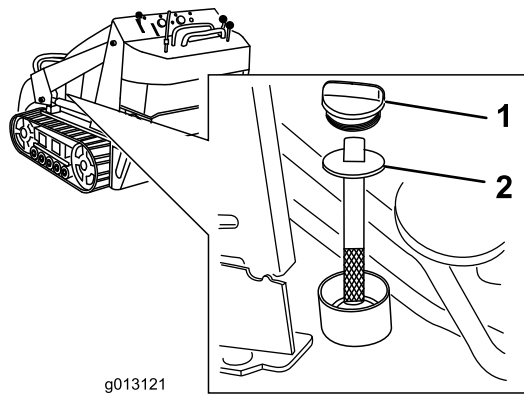

Figure 17
5. Clean the area around the filler neck of the hydraulic tank (Figure 17).
6. Remove the cap from the filler neck and check the fluid level on the dipstick (Figure 17).